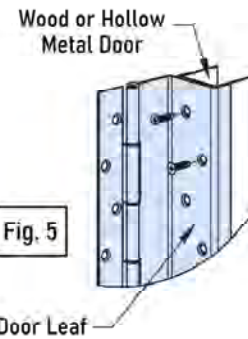

Fig. 5
Non Adjustable Hinge (Fig 5)
B. Attaching hinge to frame (Fig 5):